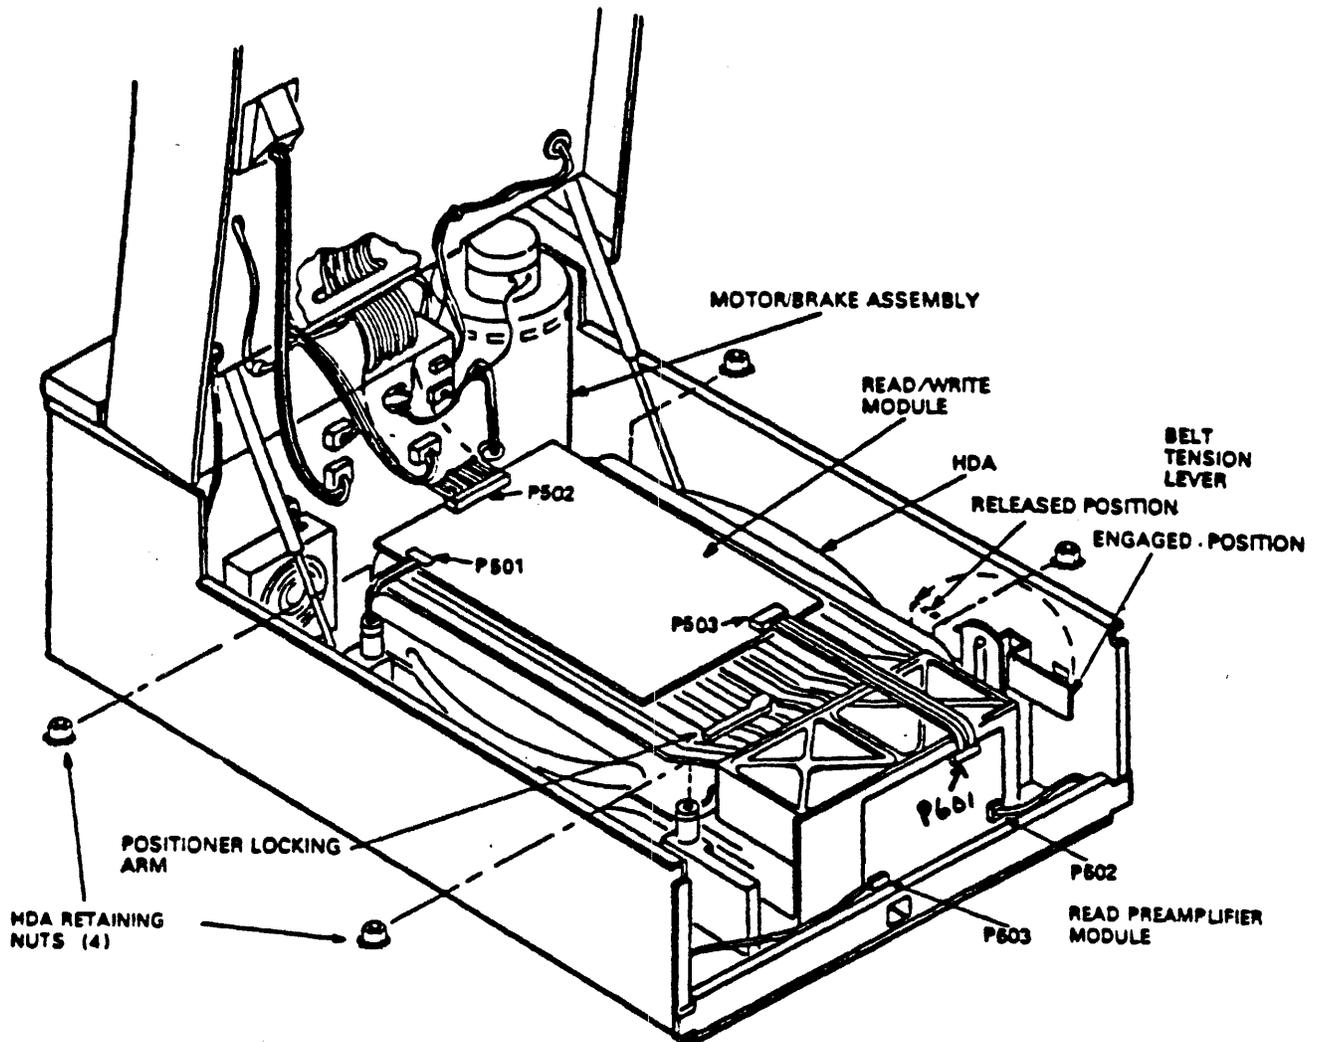

FIGURE 8
13. Disconnect cables P501 and P502 from the Read/Write module. (Figure 8)
14. Disconnect cables P601, P602 and P603 from the HDA bulkhead cover. (Figure 8)
15. Remove the Read/Write module from the HDA by removing the four (4) hold down screws.
16. Place the positioner/head locking arm in the locked position. (Figure 8)
17. Remove the four (4) HDA retaining nuts from the shock mounts. (Figure 8)
18. Place the belt tension lever in the released position. (Figure 8)
5. Reattach the four (4) HDA hold down nuts to the shock mounts. The nuts should be quite firm and snug, but only be FINGER TIGHTENED. (Figure 8)
6. Once FCO RA81X-R-009 and RA81X-I-014 have been completed, then reattach the Read/Write module using the four (4) hold down screws
7. Reconnect cables P501, and P502 to the Read/Write module. (Figure 8)
8. Reconnect cables P601, P602 and P603 to the bulkhead cover. (Figure 8)
9. Place the belt tension lever in the engaged position. (Figure 8)
10. Place the positioner lock arm in the unlocked position and remove the E.S.D. wrist strap from the ground stud. (Figure 8)